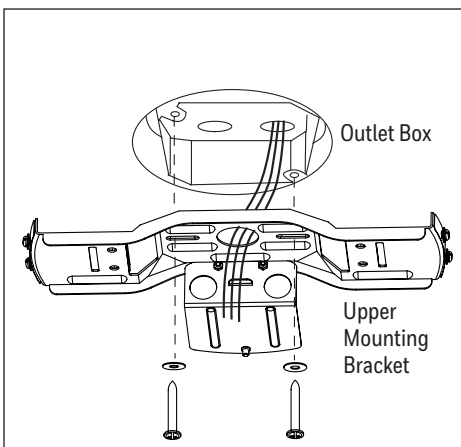

Figure 2.1
1. Secure the upper mounting bracket to the outlet box (not included) using screws and washers provided with the outlet box. **CAUTION:** It is very important that you use the proper hardware when installing the upper mounting bracket as it will support the fan (Figure 2.1). **Note:** Upper mounting bracket is equipped with a receiver bracket which will secure a remote receiver (sold separately), if you choose to add a remote control to the fan.